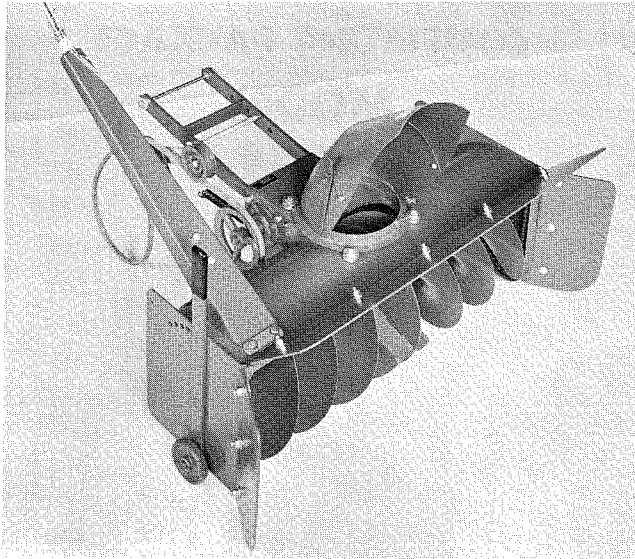

Figure 2
1. Mount the top and side extension plates as shown in Figure 2. Secure in place with the bolts, washers and nuts provided.
2. Install the mounting frame assembly by inserting the end with the four bolt holes into the blower housing frame. The arms should extend upward from the blower housing as shown in Fig. 2. Use the bolts and nuts provided to secure in place.
3. Loosen the two $\frac{1}{4}$ " bolts holding the rear rollers. Slide the roller back and insert the ring on the shroud assembly into the roller grooves. Adjust the rollers forward to fit snug against the shroud ring. Tighten the bolts, the shroud should turn freely. See Fig. 2.
4. Insert idler arm assembly shaft through the hole in the right side of the mounting frame assembly. The assembly is held in place with a $\frac{1}{2}$ " washer and a hairpin cotter, items 9 and 14, see the exploded view drawing. Stretch the spring that is connected to the idler arm and hook the loose end into the hole provided in the blower housing frame.
6. Attach the crank and support assembly to the blower housing line up the holes in the crank support with the two holes in the blower housing and the two holes in the bracket. Two reinforcing plates are used to support the assembly to the blower housing. One is placed directly under the bolt heads and the other is placed on the inside of the blower housing, see Fig. 2 and the exploded view drawing.